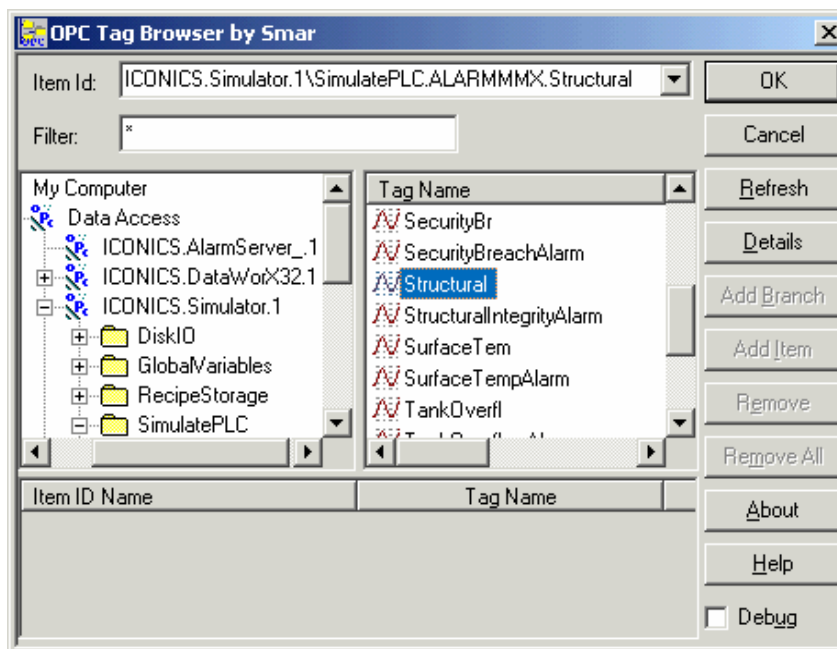

Figure 5.8. Tag Browser
4. The **Tag Browser** appears, as shown in **Figure 5.8**. With it, ProcessView components can browse to any OPC Server, from any company, on any node on the network (using the **Internet** and the **Network Neighborhood** choices). Navigate to the **Structural** OPC tag created in OPC Server Quick Start by expanding **My Computer** and clicking on **Structural**, as shown in **Figure 5.8**. Click **OK**.